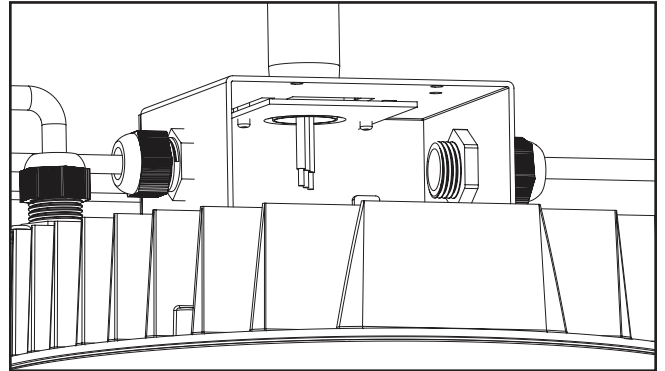

Figure 10.
- Verify that the pendant stem is fully engaged with the adjustable mounting plate by ensuring that the bottom of the pendant stem is flush with or protrudes slightly beyond the bottom of the adjustable mounting plate. (Figure 10)